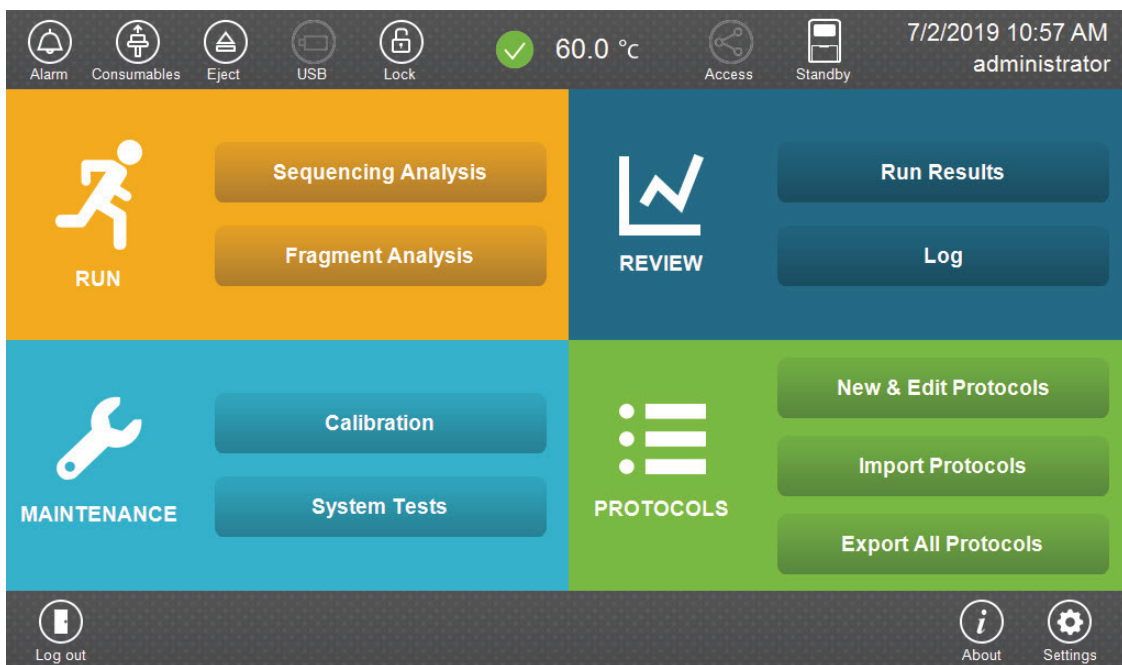

Figure 7. Spectrum Compact CE System Software 'Main Menu' screen.
3. Select **Sequencing Analysis** on the 'Main Menu' screen (Figure 7)